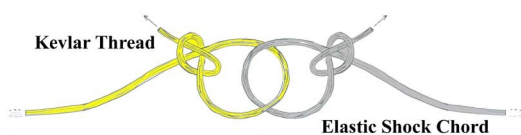

Figure 5
- **Step 15** As shown in Fig. 5, tie a slip knot at the opposite end of the Kevlar thread, about 0.25” from the end. Leave the loop open slightly. Tie a slip knot in the elastic shock chord **through** the Kevlar loop. Pull these two knots tightly together and secure them with some thinned glue. Allow to dry. Attach one of the three snap links to the long end of the elastic shock chord.
- **Step 16** Stack the three sustainer fins side by side and clamp them firmly together. Sand the root edge square, as shown in Fig. 5, making sure the fins are held at 90 degrees to the sanding surface. Do not release the fins at this time. Repeat this sequence for the booster fins.